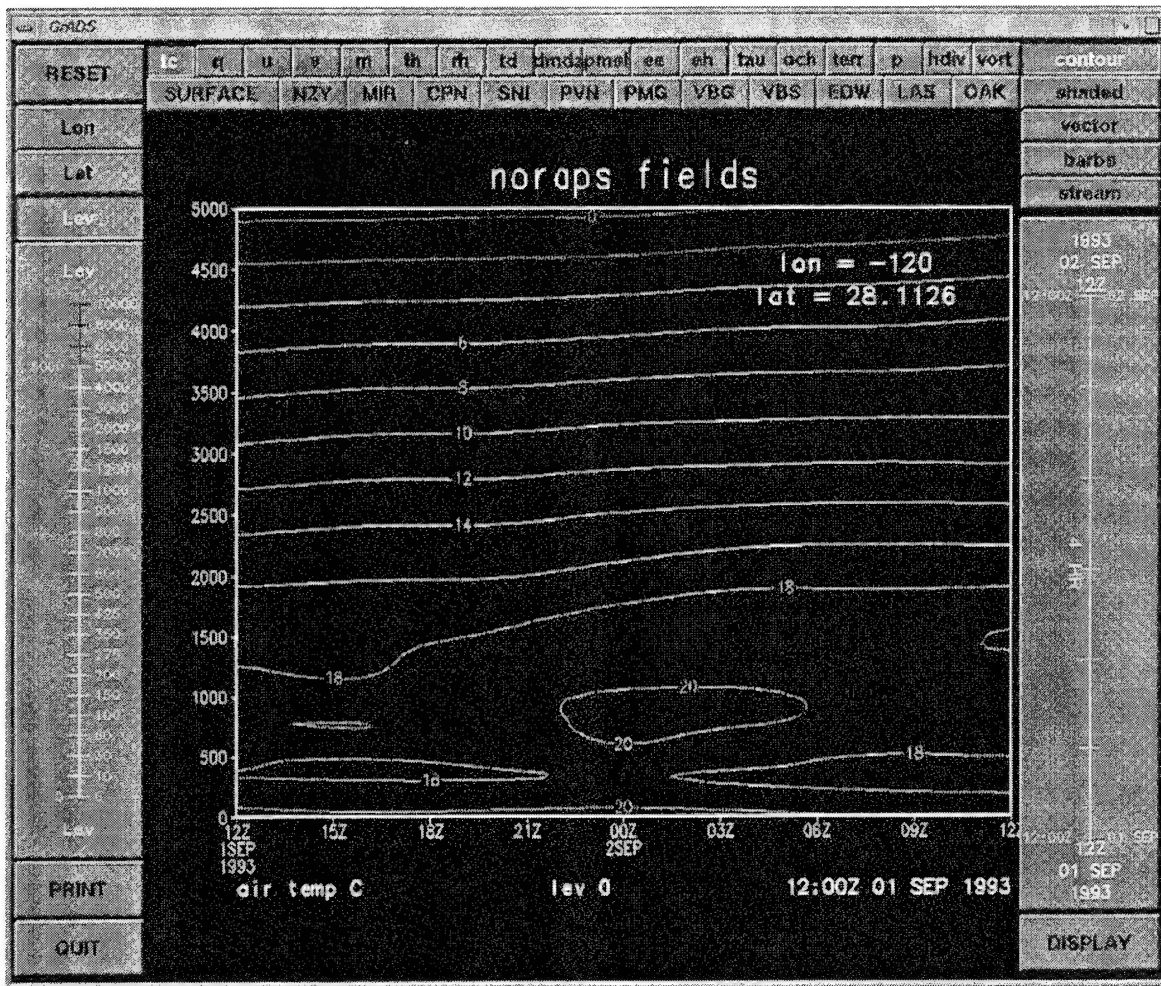

Figure 8. Typical Z-T time section.
- One dimension and time are varying (Fig. 8). A static time cross section will occur for the indicated dimension.